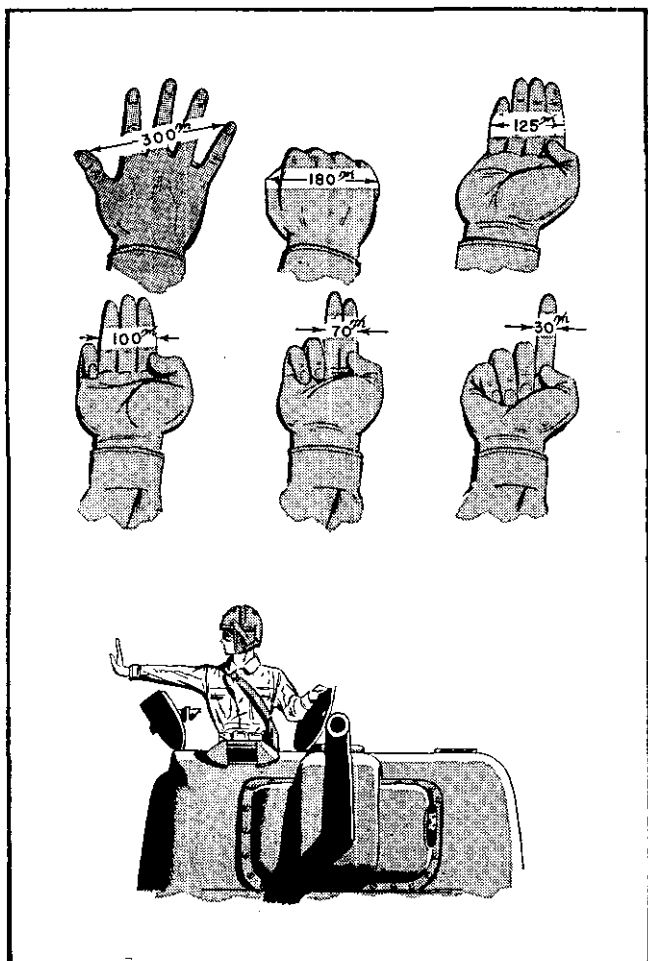

FIGURE 44.—Measuring angles with the hand.
(2) First, have the gunner fire a round where you can see it burst. Then, measure the deviation of this round from the target and give commands for changes in direction and elevation which will bring the next round on or near the target for deflection and which will bracket it for range. Split your bracket until the correct range is obtained. Then, fire a salvo (par. 70e) with all guns to check the deflection of each. When effective fire is obtained, change to volley fire (par. 70e).
(3) When firing one tank in the preliminary adjustment of a section or platoon, the other tanks must follow the deflection and elevation changes given to the adjusting gun.
b. *Direction*.—(1) In correcting direction, measure the deviation of the round from the target by means of the mil scale in the field glasses, or else by measuring it in mils using the hand or finger, the hand being held an arm's length from the eye (fig. 44). Everyone must determine and memorize the width of his hand, fist, and finger in mils. Having determined the deviation, have the gunner traverse his gun the proper number of mils. When adjusting two or more guns, measure the deviation of the center of the group of bursts.